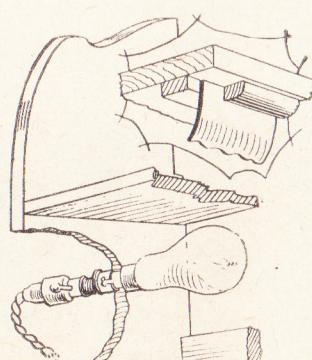

Fig. 5—Light fixing
Using a fretsaw, cut round the outline, not forgetting the recess or open mortise in the upper part of the straight back edge. This mortise is to take the end tenon on rail (B), which is again seen in the detail in Fig. 5. When cutting is done, clean up the edges of the wood and bore two holes between the two cross dotted lines to take the screws which hold the shelf (C) secure.